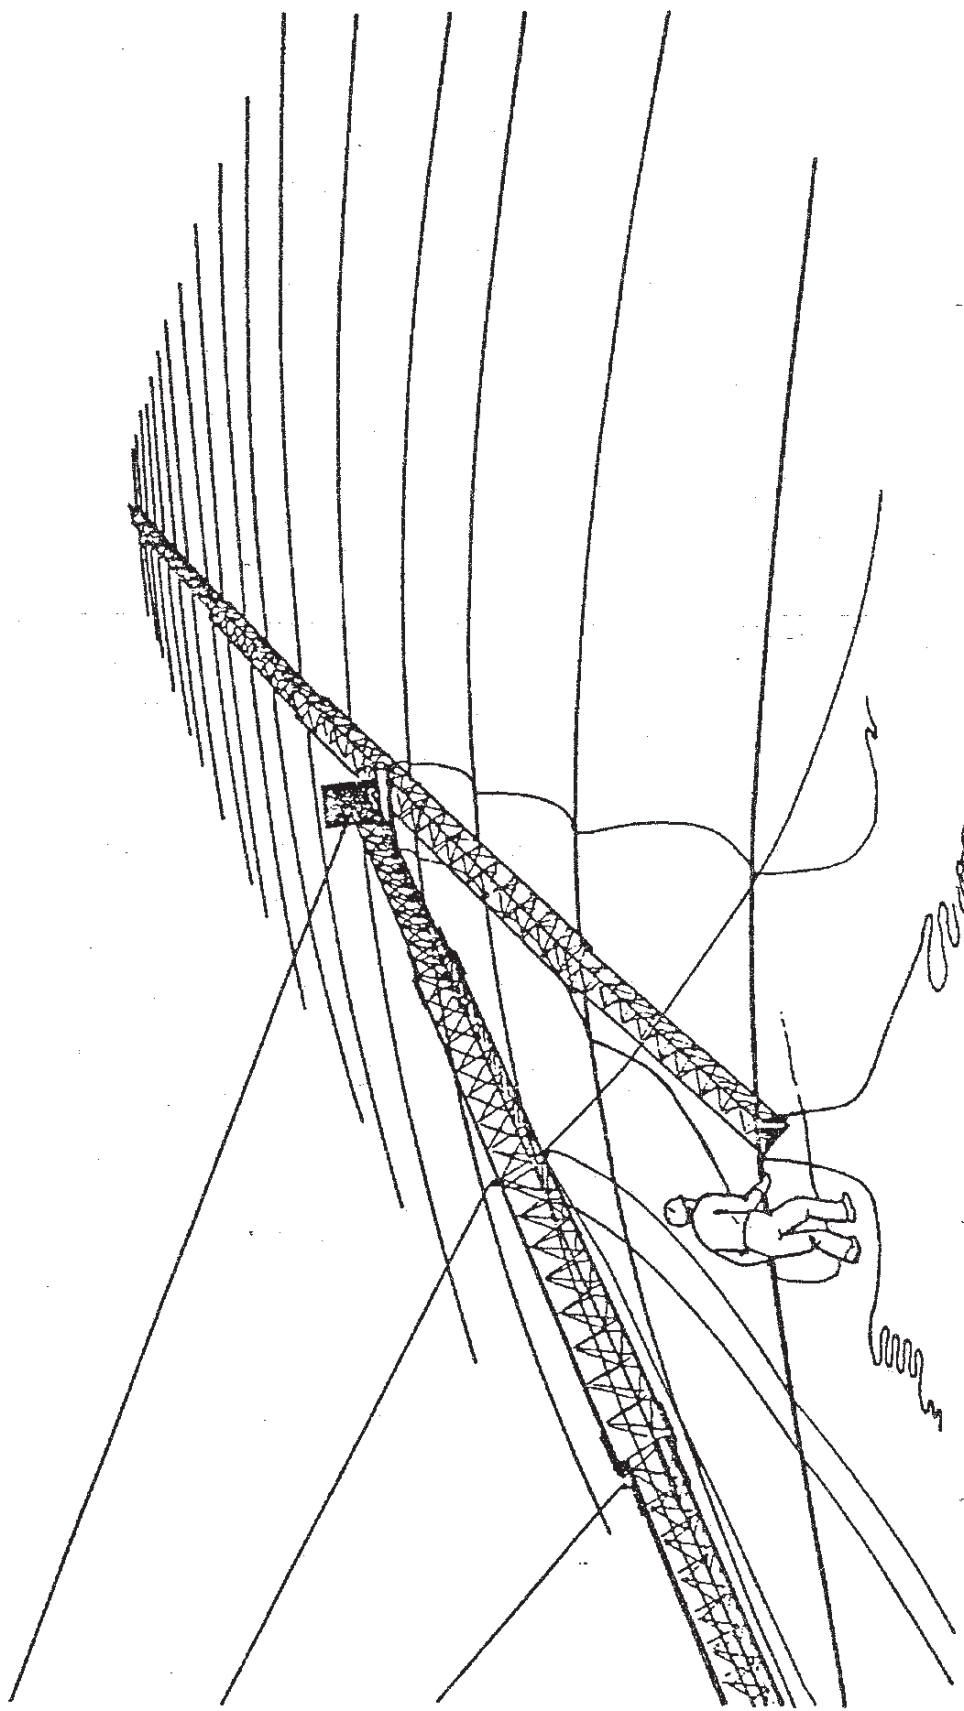

Figure 2-54
- (1) Raise the boom to clear obstacles on the ground as the tower is being raised (Figure 2-54).
- (2) One man will make tension adjustment to the unattended side guy when ordered by the griphoist operator.
- (3) Latch the boom.